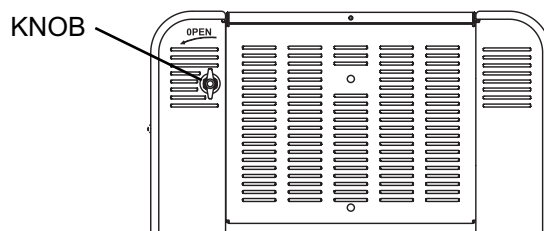

FIG. 1
4. Remove the two orange power leads which are attached to the power terminals on the top plate. Fig. 1
6. Remove the four hex bolts from the top plate. Fig. 1
1. Turn knob on the back of the VIP VISION 300 or VIP EXECUTIVE 500 one-half turn in a counterclockwise direction to release vacuum. (Be sure to close this knob TIGHTLY after vacuum is released.) Fig. 1